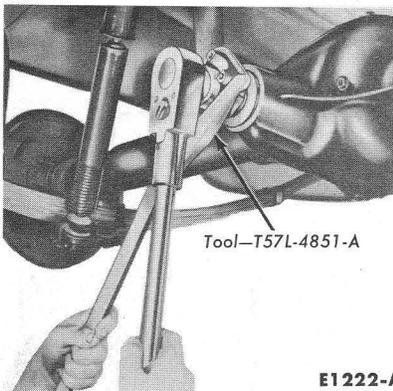

FIG. 9—Drive Pinion Shaft Nut Removal
and remove the pinion nut (Fig. 9). Remove the flat washer.
7. Place the flat washer on the pinion shaft and start the nut. Use a new nut. Hold the flange with the tool shown in Fig. 9, and tighten the pinion shaft nut. As the pinion shaft nut is tightened, the pinion shaft is pulled into the front bearing cone and into the flange.